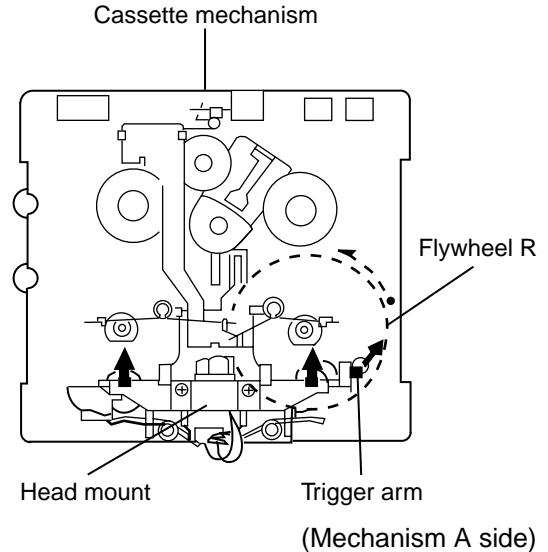

Fig. 1
### ■ Removing the playback/recording and eraser heads (See Fig. 1~3)
1. While shifting the trigger arms seen on the right side of the head mount in the arrow direction, turn the flywheel R in counterclockwise direction until the head mount has gone out with a click. (See Fig. 1)